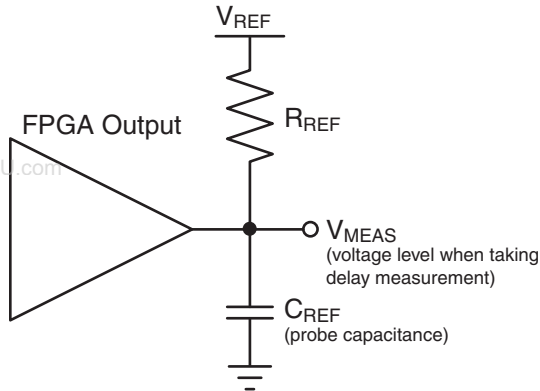

Figure 4: Generalized Test Setup
- This is an input voltage reference that bears no relation to the V_{REF} / V_{MEAS} parameters found in IBIS models and/or noted in Figure 4.
Output delays are measured using a Tektronix P6245 TDS500/600 probe (< 1 pF) across approximately 4 inches of FR4 microstrip trace. Standard termination was used for all testing. The propagation delay of the 4 inch trace is characterized separately and subtracted from the final measurement, and is therefore not included in the generalized test setup shown in Figure 4.